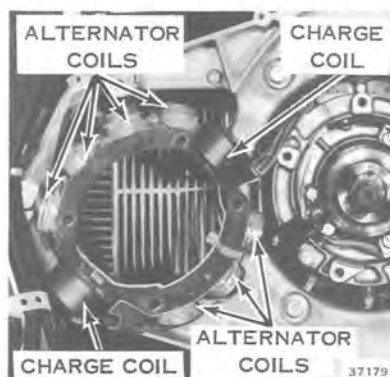

Figure 7-27
- q. Remove 4 screws holding alternator and charge coil assembly to stator plate. Assembly can now be removed from stator. See Figure 7-27. Sensor coils can now be removed for replacement if necessary.